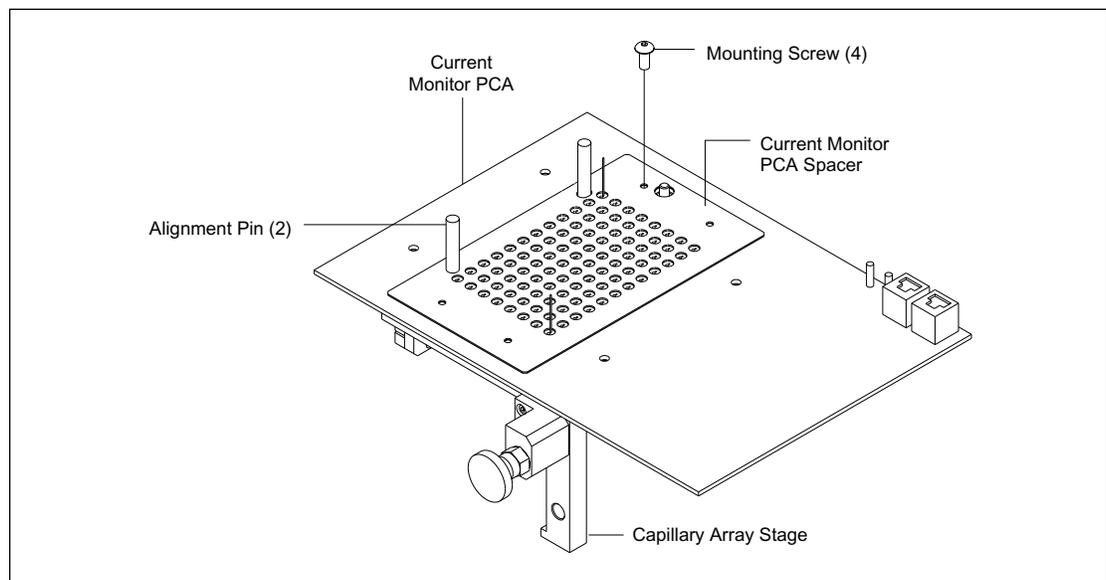

Figure 8-15. Capillary Array Stage.
8. Insert the two alignment pins all the way into the alignment holes, in the positions shown in figure 8-15, tighten the four mounting screws, then remove the alignment pins.